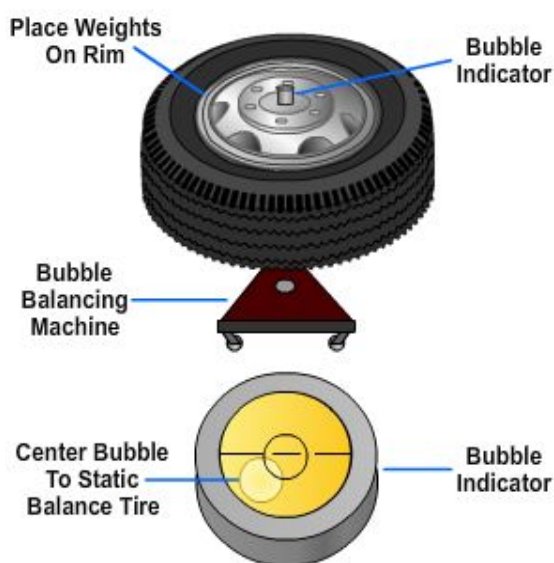

Figure 14-42 — Bubble balancer.
- Bubble balancer is the most common type of balancer used by the NCF (*Figure 14-42*). This type of balancer will ONLY statically balance a wheel assembly. The wheel assembly must be removed from the vehicle and placed on the balancer. An indicating bubble on the machine is used to locate the heavy area of the assembly. Wheel weights are added to the assembly until the bubble CENTERS on the crosshairs of the machine.